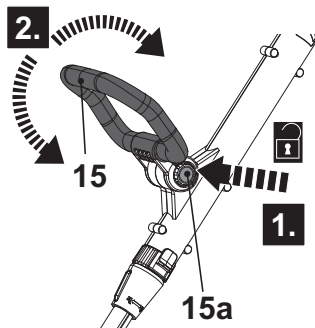

Fig. 7
1. Press down the lock button (15a) and hold it in position, then rotate the auxiliary handle (15) upward or downward to adjust the angle (Fig. 7).